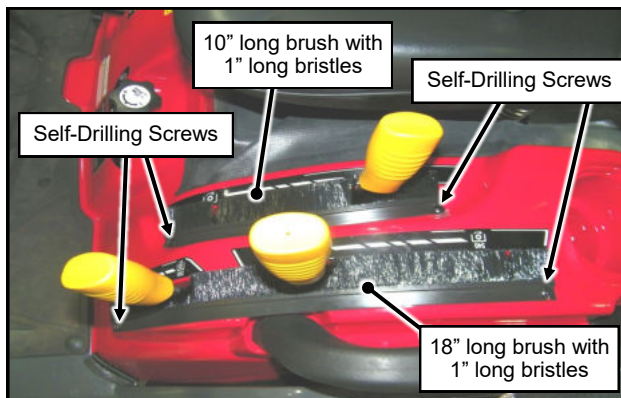

Fig. 3.1 (Attach Brushes to Left Fender)
- 3.1 Per fig. 3.1, adhere the 18" long brush (1" long bristles) to the outer side of the PTO levers, aligned to the label on the opposite side of the levers.
- 3.2 Per fig. 3.1, install a self-drilling screw at each end of both sealing brushes into the tractor fender. Place the screws centered on the plastic brush holder, 1/4" to 1/2" from the end of the brush.